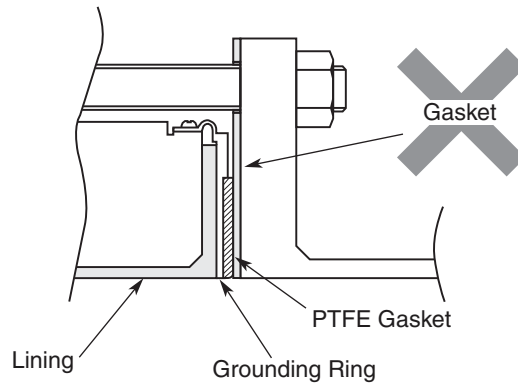

Figure 20. Installation on PVC Pipe with non-316 ss Grounding Ring
1. Install the flowtube as shown in Figure 20. See Table 2 for the appropriate fastening torque.